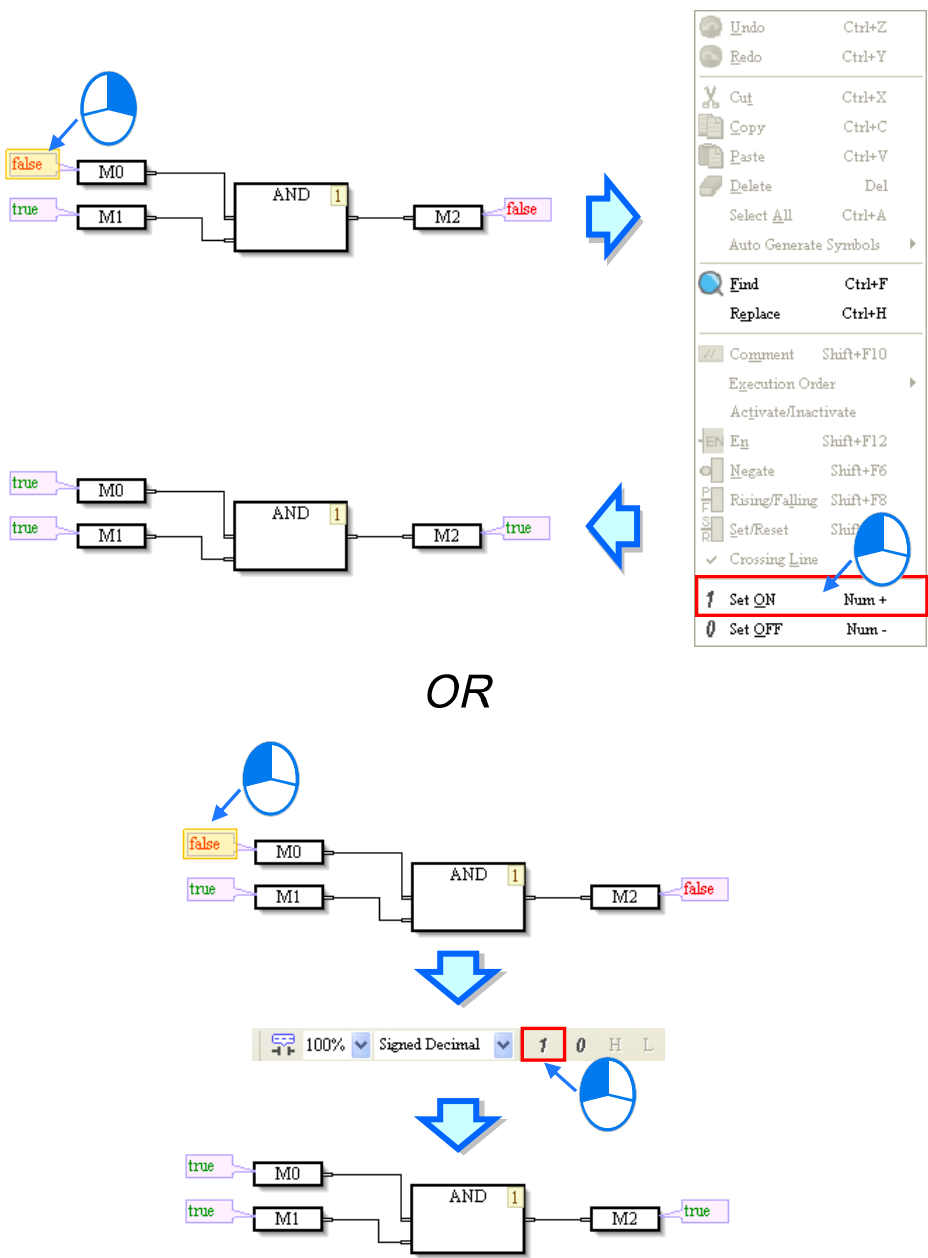

Figure 12-52 Changing the state of a node
- (1) If users want to change the state of a node online, they have to select the text box showing the state of the node, right-click the text box, and click **Set ON** or **Set OFF** on the context menu which appears, or click **1** or **0** on the toolbar. Please see figure 12-52.